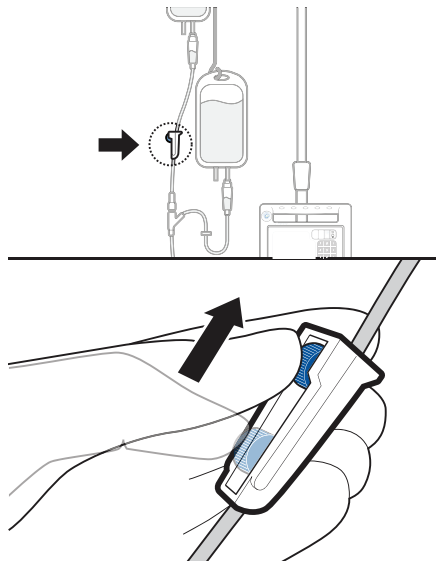

Figure 4-72 On/Off Roller Clamp
13. Open the On/Off roller clamp on the secondary medication/solution set (Figure 4-72) and immediately press the **START** key.